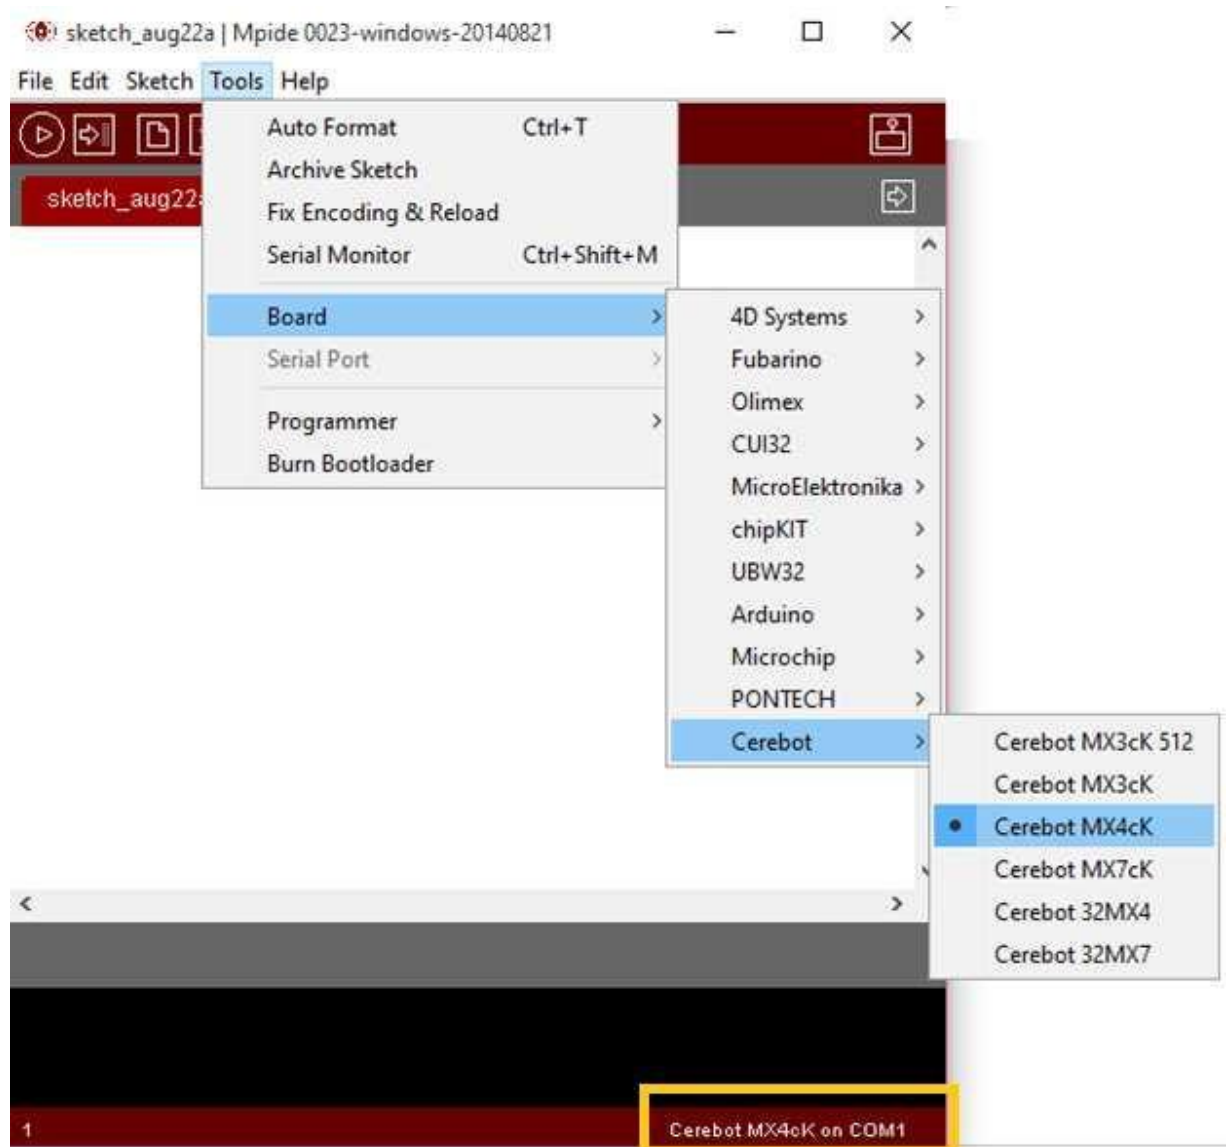

Figure 1-3 Tools Menu
2. From the Tools Menu, select the suitable Board and Serial Port as shown in Figure 1-3.